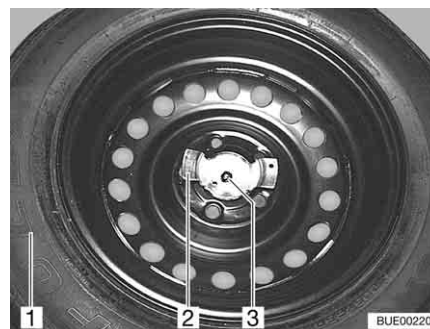

Fig. 235 Spare wheel fixture
- Unscrew both nuts (Fig. 235,2 and 3).
- Remove the spare wheel (Fig. 235,1) from the spare wheel support.